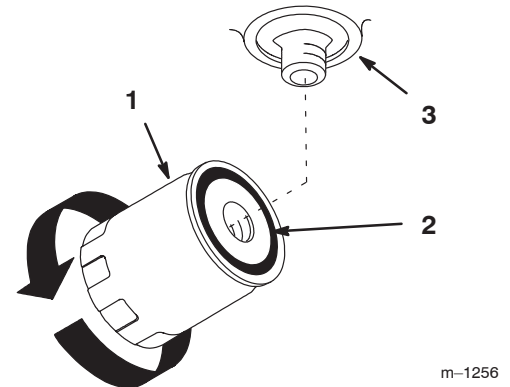

Figure 33
3. Apply a thin coat of new oil to the rubber gasket on the replacement filter (Fig. 33).
4. Install replacement hydraulic filter onto the filter adapter. Turn the oil filter clockwise until the rubber gasket contacts the filter adapter, then tighten the filter an additional 1/2 turn (Fig. 33).